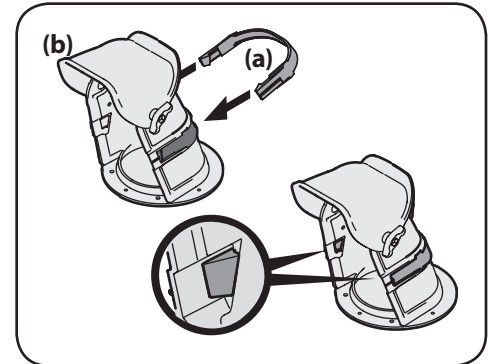

Figure 2-9
1. If not already done, install the chute plug (a) onto the chute (b) as shown in Figure 2-9. Be certain that the plug is aligned in the channel on the chute and that the tabs snap into place.